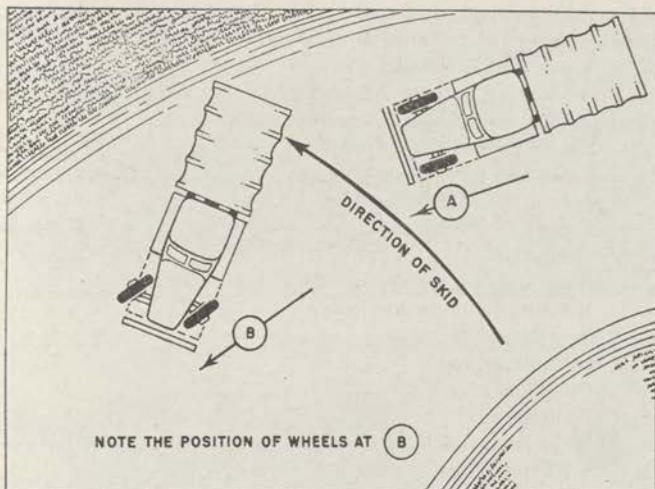

FIGURE 11.—Position of wheels when stopping skids.
26. STOPPING A SKID.—If your vehicle starts skidding in spite of all precautions, turn the front wheels in the same direction as the skid and slow down gradually, as shown in figure 11. The skid will be worse if you apply brakes, or suddenly take your foot off the gas, or turn the wheels in the opposite direction from the skid.